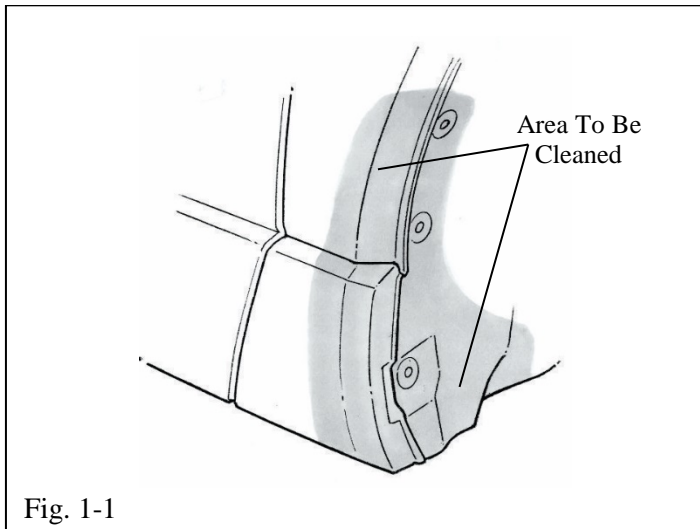

Fig. 1-1
- Clean and degrease front body where mudguard is to be located with a clean cloth and soap/water mixture. (Fig. 1-1)